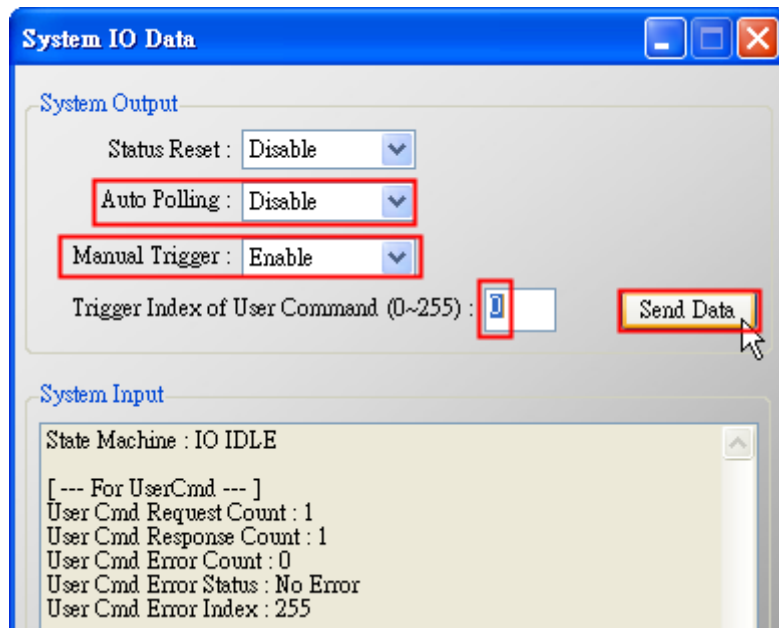

Figure 12-6 The “I/O Data” screen of System
- (4) Right click on the “System” item and choose the “Basic Operation”.
- (5) After finish the below settings, click “Send Data” button to send the UserCMD(6) to HART device. (Figure 12-6)
- [3] “Trigger Index of User Command” field => Input “0” (UserCMD(6) Index)